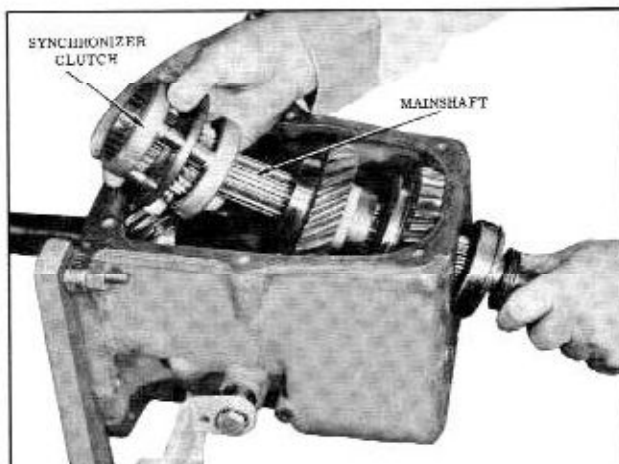

Fig. 11-9 Removing Synchronizing Clutch
7. Remove the synchronizing clutch from the main shaft. (Fig. 11-9)